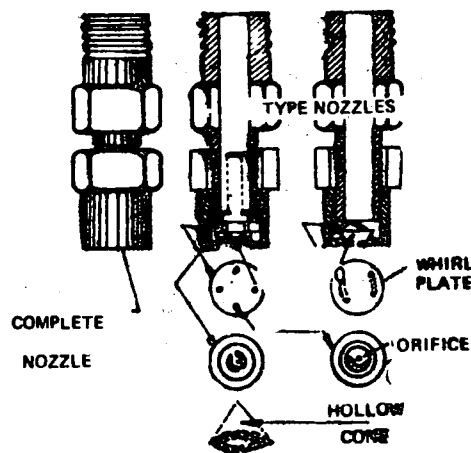

Fig. 8
*Conical-type nozzles (Fig. 8).*